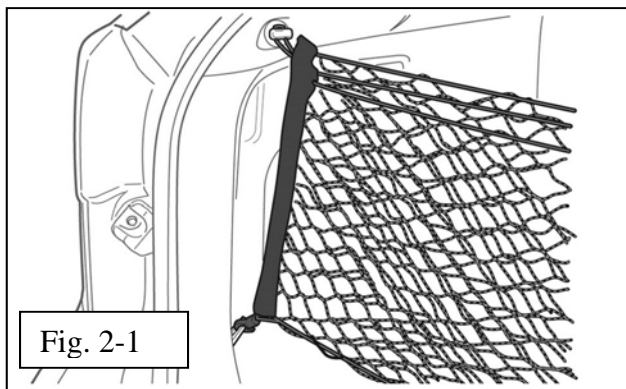

Fig. 2-1
- (c) Place the left side upper bungee cord loop over the "T" nut (Fig. 2-1).
- (d) Place the left side lower hook onto the "D" ring (Fig. 2-1).